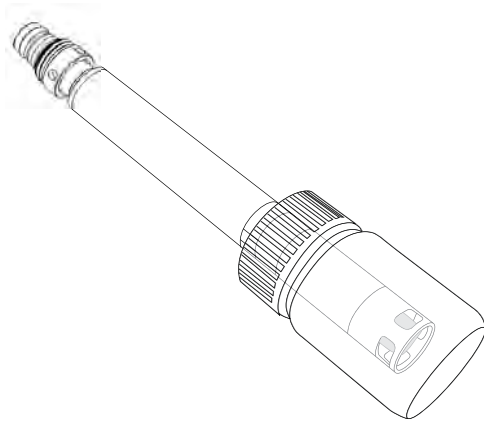

Figure 76 ISE long-term storage
3. Install the bottle o-ring and tighten (Figure 76).